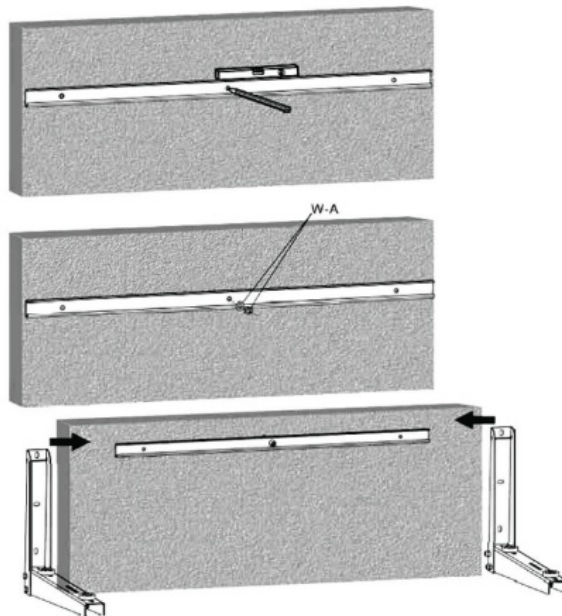

Fig. 3.1
1. Using Wall Plate A (with lip of plate at the bottom), place it against the wall to determine the correct mounting location. Use a level to align the wall plate and ensure it is parallel with the ground. Once level, use a pencil to mark the three holes on the surface it is to be mounted to. Please refer to Fig. 3.1.
4. Now, using the support bracket mounts you assembled in the first section, you will now slide them onto each side of the mounted wall plate. They will need to be slid into the correct position on the wall plate to accommodate the bottom of the condenser. Please refer to Fig. 3.1.